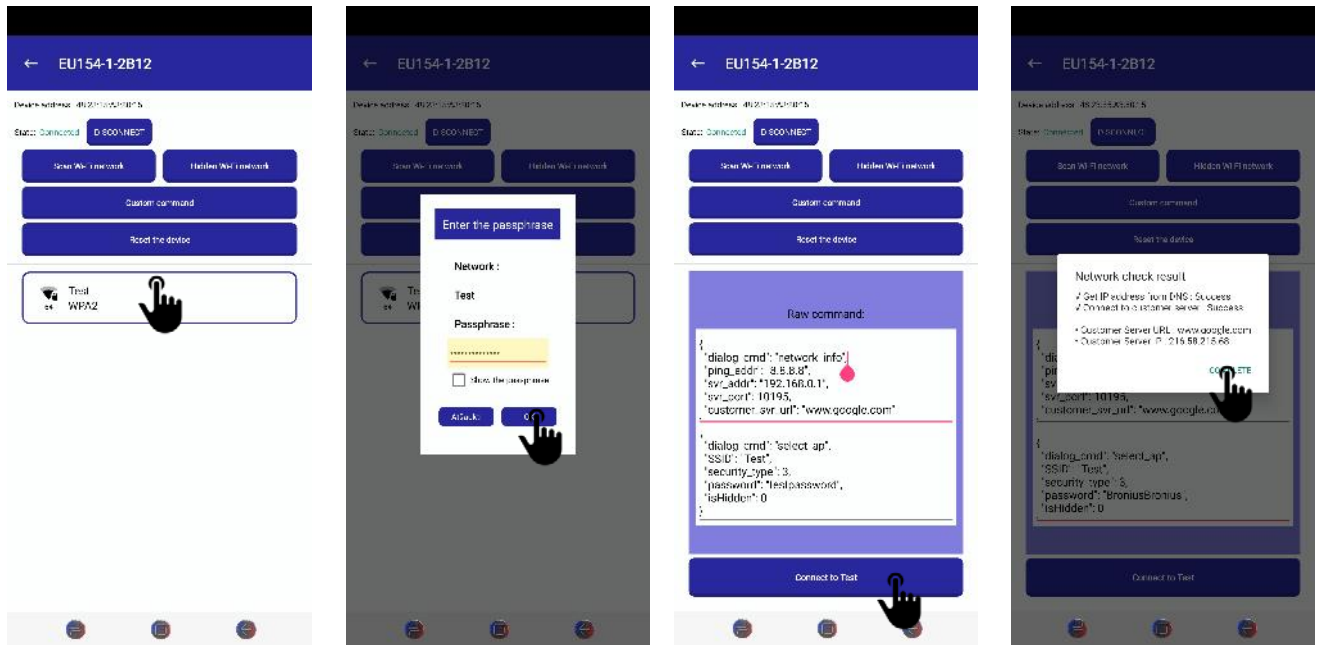

Figure 6. WiFi Provisioning
10. Next steps are shown in Figure 6: